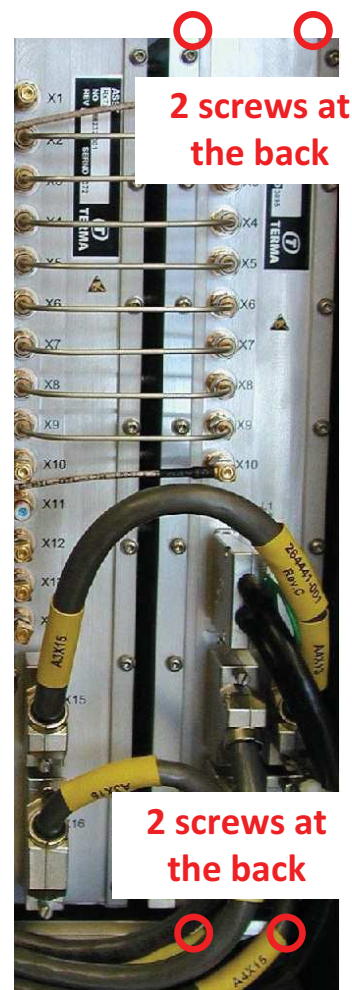

Fig. 7.27 Screws
- 5 Loosen the 4 captive screws holding the RxTx Control to the back of the cabinet (tool 9). 2 screws are located at the top and 2 screws are located at the bottom as indicated in Fig. 7.27 \(p. 133\).